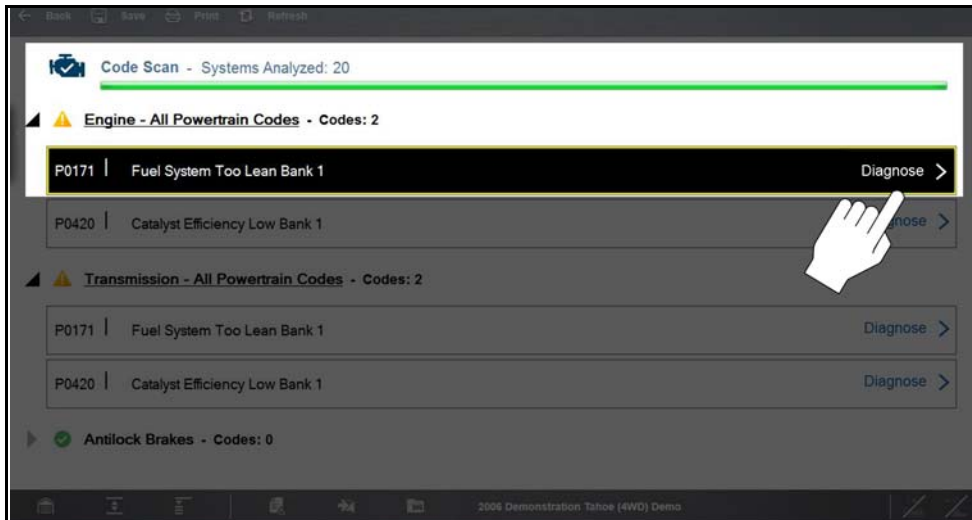

Figure 4-16 Diagnose icon
- **Diagnose Icon** - (Figure 4-16) Selecting **Diagnose** opens **Intelligent Diagnostics** providing you additional code specific information. See Intelligent Diagnostics on page 66 for detailed information.